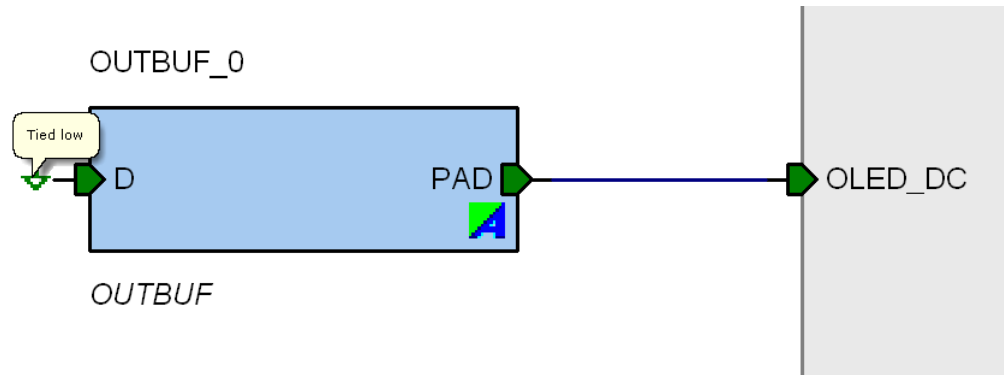

Figure 2-23 · OLED\_D/C Signal Configuration in SmartDesign
**Note:** The OLED has an Input signal OLED\_D/C. When the OLED is in SPI Mode, the OLED uses the D/C signal to differentiate between command and data. Hence this has been routed to the FPGA. When the OLED is in I2C Mode, this signal should be driven Low and not left unconnected from the FPGA design. You need to instantiate an OUTBUF with input tied to low (Figure 2-23 on page 32). You also need to assign pin number “G11” to OLED\_D/C signal while running the Designer software.